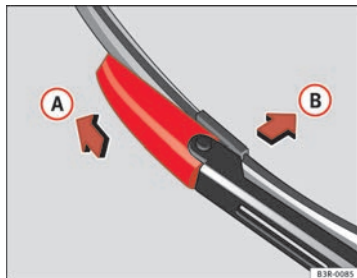

Fig. 174 Removing the wiper blade
- Slide the retainer catch on the wiper blade in the direction indicated $\Rightarrow$ fig. 174 **A**. Hold onto the wiper blade at the same time.